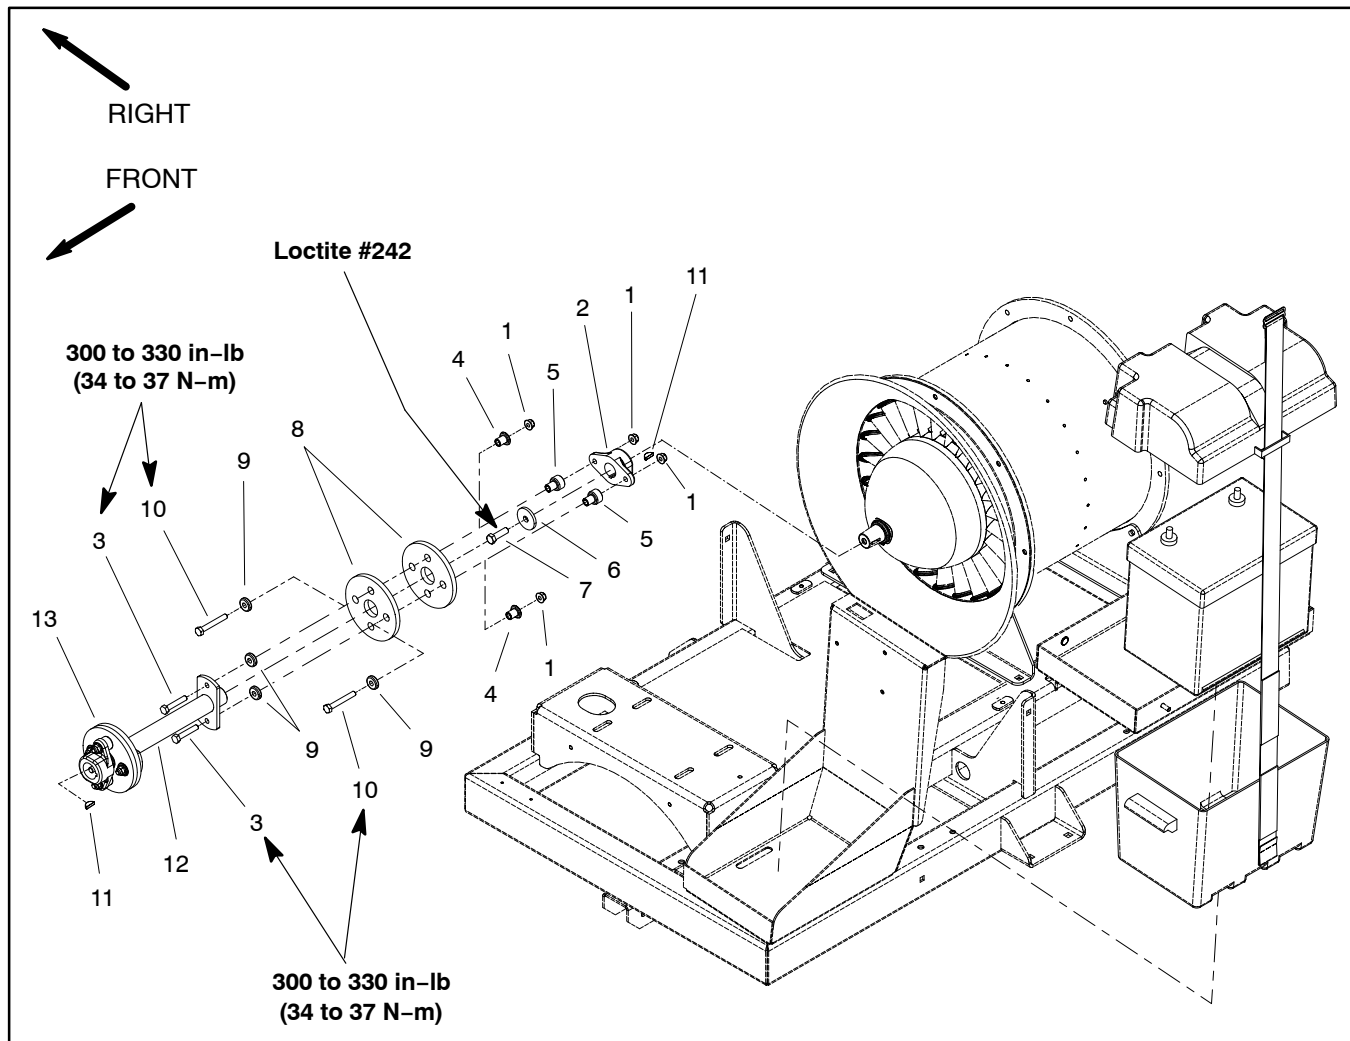
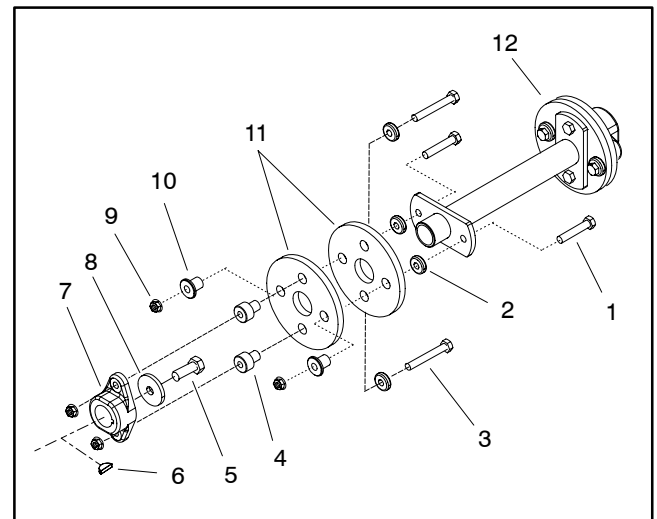

Figure 1
Figure 2
**NOTE:** The coupling assembly between the blower shaft and drive shaft (item 12) is illustrated in Figure 1. The coupling assembly (item 13) used between the drive shaft (item 12) and engine shaft is composed of the same components (Fig. 2).
**Removal (Fig. 1)**
6. Disassemble drive couplings from drive shaft using Figures 1 and 2 as guides. Note differences in coupling spacer flange thickness for assembly purposes.
**Installation (Fig. 1)**
3. Secure rubber couplings to drive shaft with cap screws and lock nuts using Figures 1 and 2 as guides.